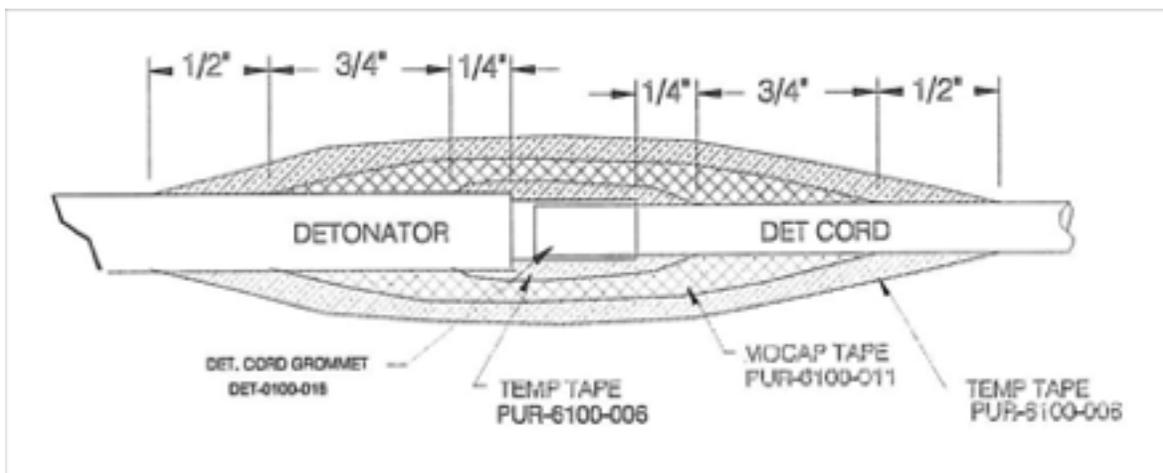

FIG. 1
5.4.6. Slip a Teflon grommet (DET-0100-018), over the bottom end of the detonating cord. Ensure that the grommet is not covering the explosive. Crimp a detonating cord seal on the bottom end of the detonating cord. This detonating cord seal will be exposed to well fluid. FIG. 1 shows a recommended method for taping detonators/boosters/end seals, etc. to prevent leaking. Keep the outside diameter of the tape job small enough so that the detonating cord can move inside the tube if shrinkage occurs.
5.5.6. Insulate the detonator/detonating cord interface according to the diagram shown in FIG. 1 earlier.